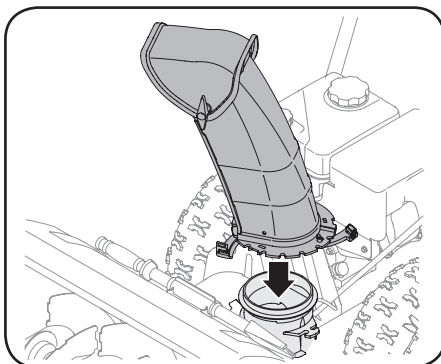

Figure 2-9
1. Position the chute assembly over the base, seated securely on adapter. See Figure 2-9.